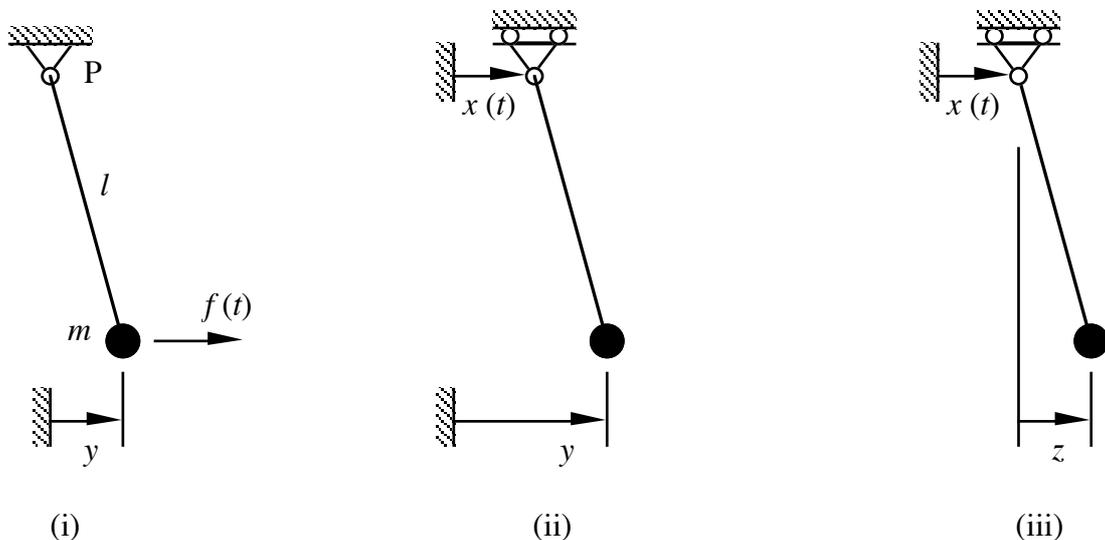

Fig. 3
6. A simple pendulum comprises a bob of mass  $m$  at the end of a light string of length  $l$ , the top end of which is fixed at a point P as shown in Fig. 3(i). Damping is modeled by a viscous dashpot  $\lambda$  acting between the frame and the bob as shown. Draw a free-body diagram of the bob to show that small oscillations of the pendulum (in the absence of any damping) are governed by the differential equation
Instead of applying a force  $f(t)$  to the bob, vibration is excited by means of a time-varying horizontal motion  $x(t)$  of the frame as shown in Fig. 3(ii). With reference to your free-body diagram, show that small oscillations are now governed by the differential equation
Now instead of measuring the absolute motion  $y$  of the bob, we measure motion  $z = y - x$  of the bob *relative* to the frame as shown in Fig. 3(iii). Show that small oscillations are governed by the differential equation